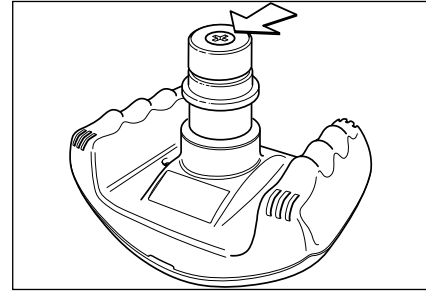
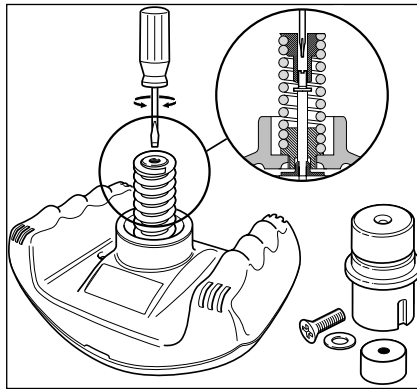

Figure 9
Figure 10
2. Use a Torx™ tool (size T20) to loosen the screw at the top of the connection stem with a firm turn (**Figure 9**). Remove the nylon stem and the nylon spacer and washer located inside the stem (**Figure 10**).
3. Insert a straight blade 4 mm (or  $\frac{1}{8}$  inch) wide screwdriver in the threaded hole at the end of the spring/plunger assembly and catch the slot of the adjustment screw that is seated about  $\frac{5}{8}$  inch (1.5 cm) down inside the brass plunger (**Figure 10**).